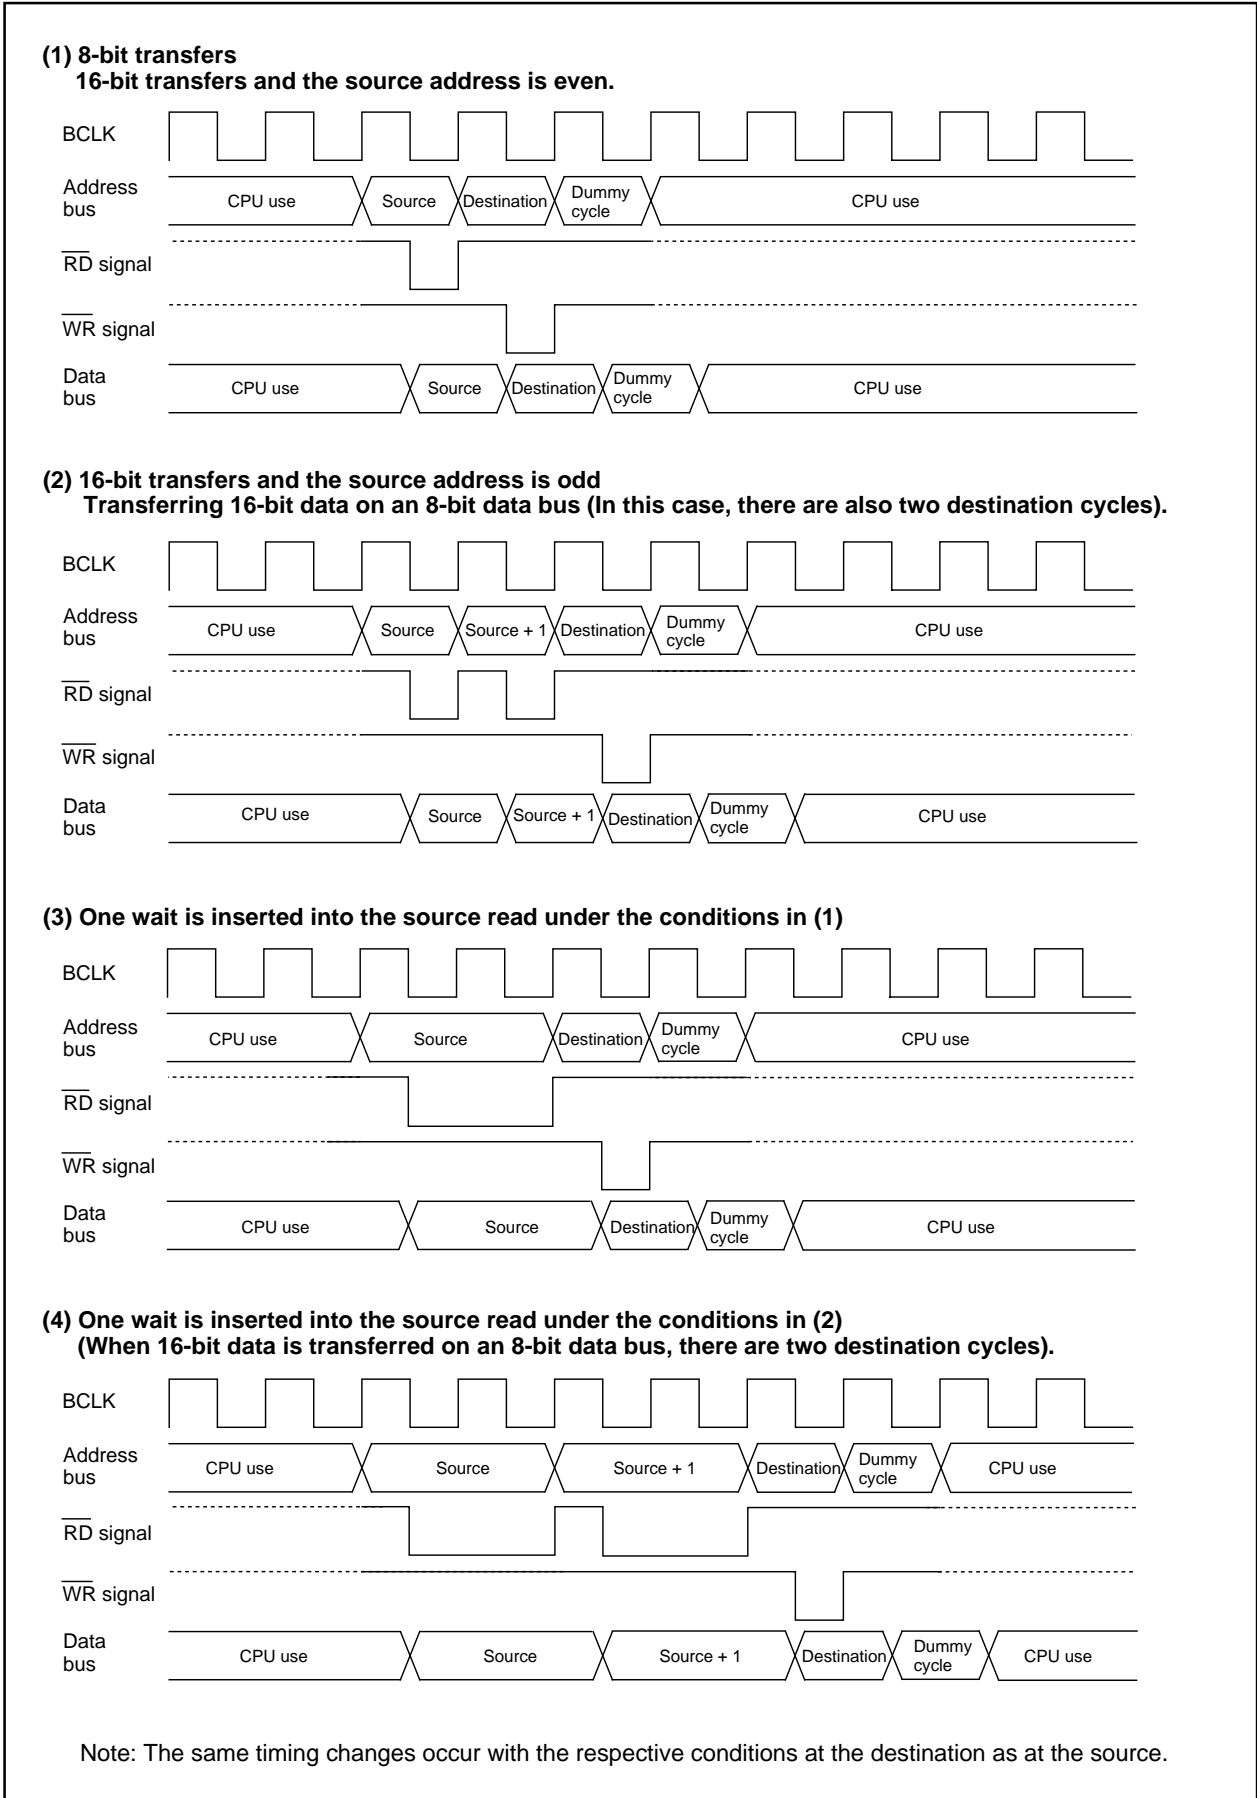

Figure 1.14.5. Example of the transfer cycles for a source read
Figure 1.14.5 shows the example of the transfer cycles for a source read. For convenience, the destination write cycle is shown as one cycle and the source read cycles for the different conditions are shown. In reality, the destination write cycle is subject to the same conditions as the source read cycle, with the transfer cycle changing accordingly. When calculating the transfer cycle, remember to apply the respective conditions to both the destination write cycle and the source read cycle. For example (2) in Figure 1.14.5, if data is being transferred in 16-bit units on an 8-bit bus, two bus cycles are required for both the source read cycle and the destination write cycle.